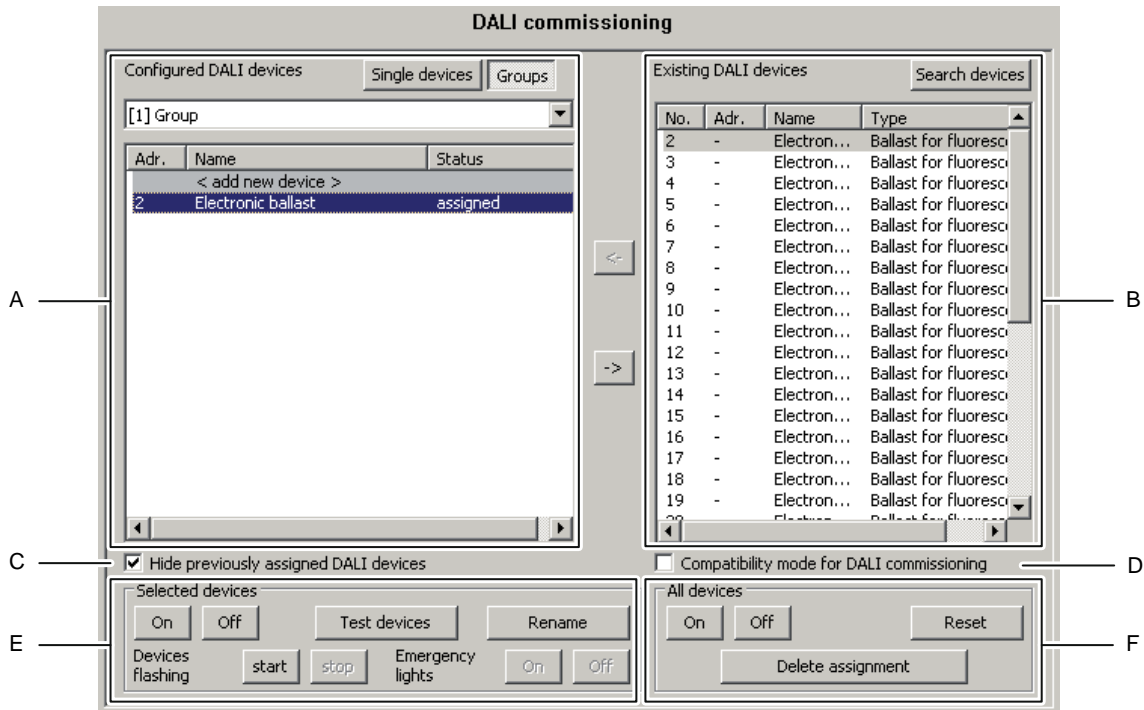

Figure 61: Panes of the commissioning environment
The commissioning environment of the plug-in is divided up into two panes. The right-hand pane lists the operating devices found in the DALI system. The left-hand pane displays the created groups. The assignment of the DALI devices to the programmed groups or single devices also takes place there (Figure 61).
During initial commissioning, no DALI operating devices are displayed in the right-hand window area (B) (Figure 61). To continue commissioning, the operating devices connected to the DALI cable must first be searched for. The DALI system must be fully connected and switched on without interruptions in order for the DALI Gateway to be able to find and identify all the connected DALI operating devices during the device search. In addition, the mains voltage supply of the DALI Gateway must be switched on.
For special cases, it is possible to assign operating devices for group control to more than just one DALI group. In the standard case, assignment of a DALI operating device is only possible in one device. This makes device assignment clear, and the unique assignment means that there are no group overlaps and, as a result, no influencing of configuration and feedback values. If necessary, multiple group assignment can be enabled as an alternative. To do this, the checkbox "Hide previously assigned DALI devices" (C) must be deselected in the Commissioning dialog of the plug-in (Figure 61). This means that it is then possible to assign DALI operating devices to more than just one group during online commissioning.